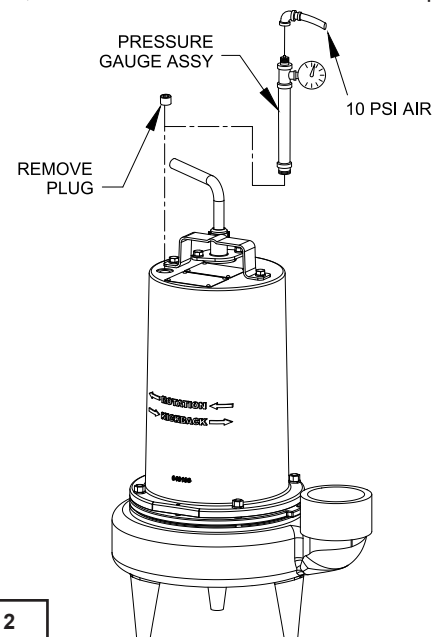

FIGURE 2
**Motor Housing** - Set unit upright and refill with new cooling oil as per Table 1 (see parts list for amount). Fill to just above motor as an air space must remain in the top of the motor housing (2) to compensate for oil expansion (see Figures 2, 11, or 13). Apply thread locking compound to each pipe plug (5) then assemble to motor housing (2).
- Apply pipe sealant to pressure gauge assembly and tighten into pipe plug hole (see Figure 2). Pressurize motor housing to 10 P.S.I. Use a soap solution around the sealed areas and inspect joints for "air bubbles". If, after five minutes, the pressure is still holding constant, and no "bubbles" are observed, slowly bleed the pressure and remove the gauge assembly. Replace the pipe plug using a sealant. If the pressure does not hold, then the leak must be located and repaired.
- The pressure test may not be done with the oil at its normal level. Remove pipe plug (5) from motor housing (2). Apply pipe sealant to pressure gauge assembly and tighten into hole (see Figure 2). Pressurize motor housing to 10 P.S.I. Use soap solution around the sealed areas above the oil level and inspect joints for "air bubbles". For sealed areas below the oil level, leaks will seep oil.